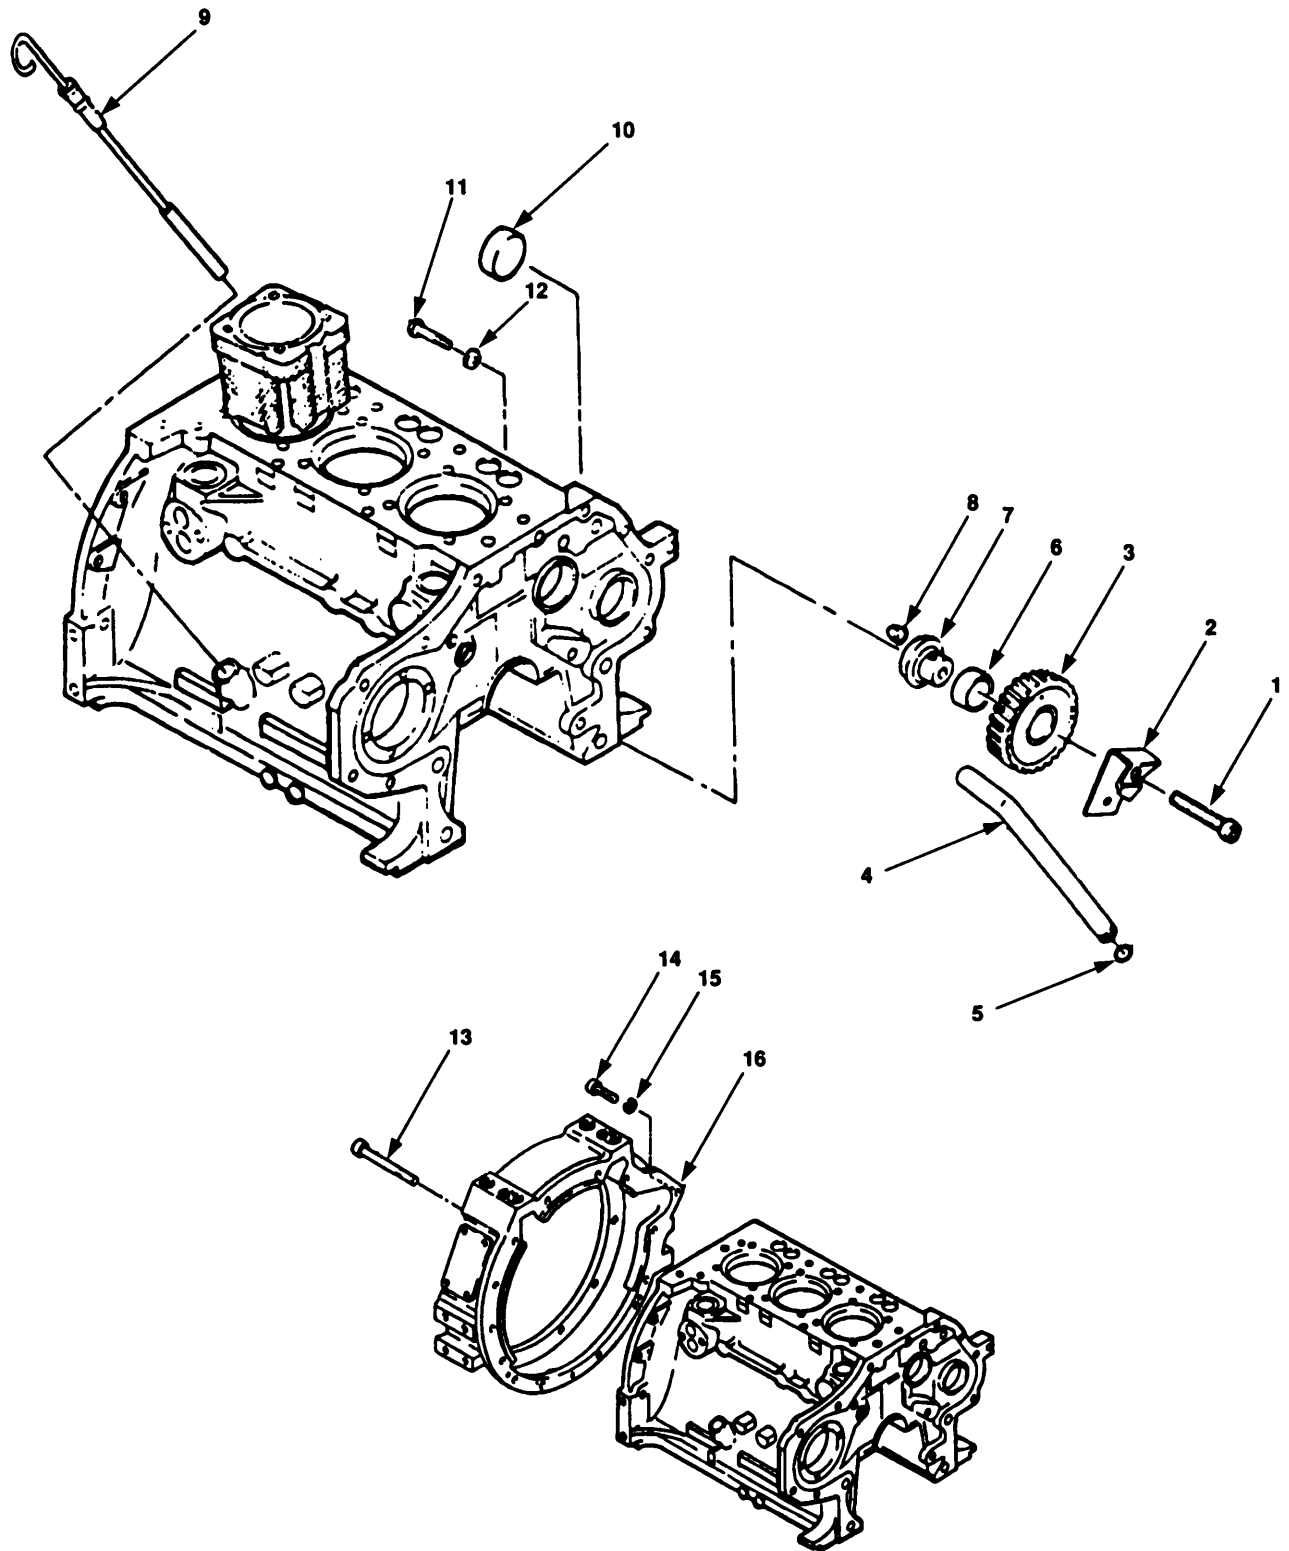

Figure 6-8. Idler Gear and Housing Adaptor Removal.
- (1) Remove breather pipe (23) and bracket (24).
- (2) Remove two nuts (25), washers (26), and bolts (27).
- (3) Remove suction pipe (28).
- (4) Remove two bolts (29), washers (30), shield (31), and oil Pump (32).
- (5) Remove two screws (33), washers (34), and brackets (35).
- f. Remove cap screw (figure 6-8, 1) bracket (2) and idler gear (3).
- g. Remove tube (4) and seal (5) from bracket (2).
- h. Remove bushing (6) from idler gear (3).
- i. Remove journal (7) and bushing (8).
- j. Remove dip stick (9).
- k. Remove cover (10), screw (11) and sealing ring (12).
- l. Remove three long bolts (13), eleven short bolts (14), lockwashers (15), and one housing adapter (16).